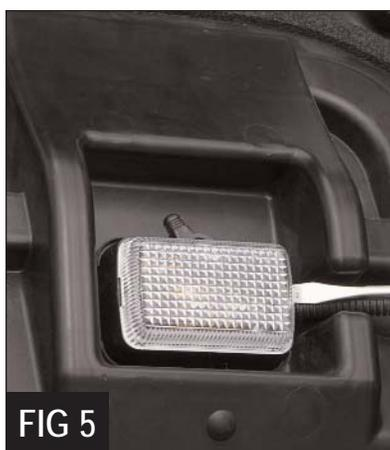

FIG 5
6. Remove light cover, using a flathead screwdriver (Figure 5).